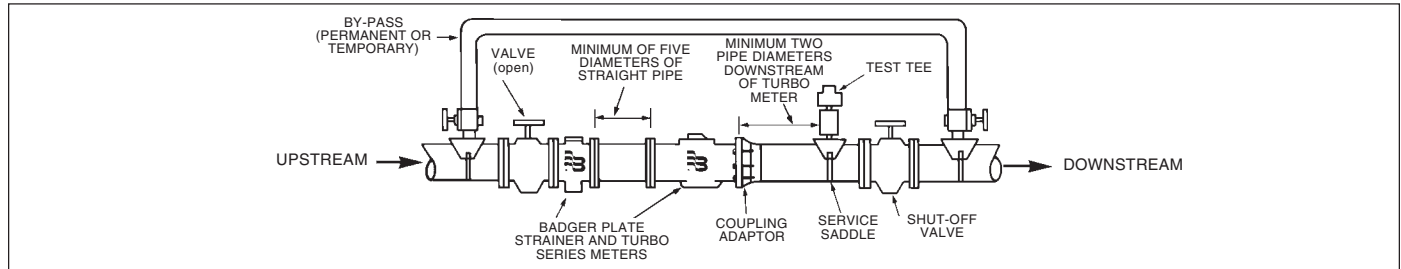

Figure 1. Recommended Meter Installation
Procedures for installing Badger Turbo Series meters are essentially the same for all meter sizes. Any special instructions required for the installation or connection of accessory devices such as strainers will be provided as supplements to this manual. Figure 1 outlines a recommended meter installation.
a. When installing the meter with a separate Badger Plate Strainer or integral strainer, a minimum of five (5) pipe diameters of straight, unobstructed pipe is recommended upstream of the meter. For optimum protection and accuracy, this straight pipe spool piece should be installed between the separate strainer and meter as illustrated in Figure 1. (A minimum of ten (10) pipe diameters (minimum of 25 pipe diameters for smallest size) of straight unobstructed pipe is recommended upstream of a meter installed without a plate strainer. The deletion of a strainer, however, is not recommended.) This allows for dampening of velocity profile distortions caused by elbows, pumps, dirt traps, etc., prior to the meter. Where spiral flows are created by three dimensional elbows or rotary pumps, additional distance to dampen the effect is beneficial. If a basket or Y-type strainer is utilized, it is recommended that it be placed five (5) to ten (10) pipe diameters prior to the meter to dampen velocity profile distortions created by this design.
c. Valves immediately upstream of the meter should only be fully-open gate valves. Butterfly valves are acceptable if they are five (5) pipe diameters or more upstream from the meter. Downstream, fully open gate or butterfly valves can be used.
d. The service saddle (or reducing tee) which is used for field accuracy testing should be at least two (2) pipe diameters downstream of the meter's outlet flange.
e. Unweighted check valves should not be located closer than three (3) pipe diameters downstream of the meter.
f. Externally weighted check valves and pressure reducing devices should not be located closer than five (5) pipe diameters of the meter.
g. When installing a turbo meter and plate strainer of a size smaller than the pipe installation, to reduce the effect of jetting caused by the increase in flow velocity, a minimum of five (5) pipe diameters is recommended upstream of the meter. Additional length is recommended if a sharp contraction or an eccentric reducer, rather than a concentric, tapered reducer is used.